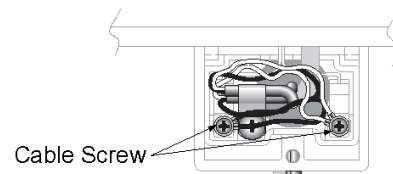

Fig.4
12. Loosen 2 cable screws on the terminals for controls and connect the cable. You cannot connect more than 2 cables at a time. When connecting more than 2 cables, connect them in parallel. (Figure 4)